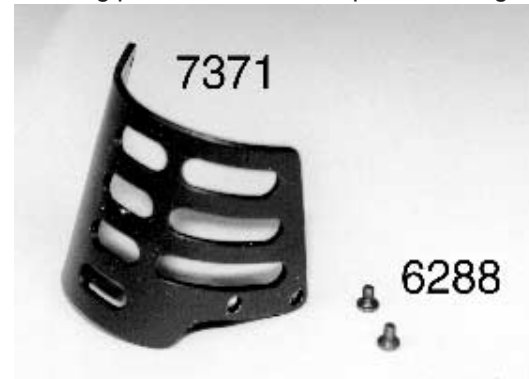
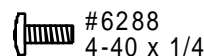

Fig. 70
Fig. 71
□ **Figs. 70 & 71** (1) In the same motor plate bag you will find the #7371 black aluminum motor guard. (2) Now go back to bag F and take out two #6288 4-40 x 1/4" BHSScrews. Now you are going to fasten the motor guard to the motor plate with the #6288 screws. The motor guard fits over the mounting points on the motor plate. See fig. 71.